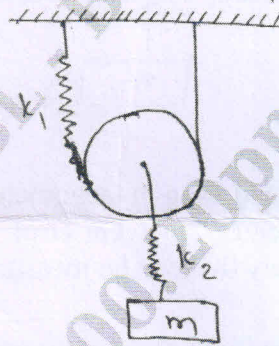

Fig. Q2 (b)
- b. Determine the natural frequency of mass $m = 15 \text{ kg}$ as shown in Fig. Q2 (b), assuming that chords do not stretch and slide over the pulley rim. Assume pulley has no mass and take $K_1 = 8 \times 10^3 \text{ N/m}$ and $K_2 = 6 \times 10^3 \text{ N/m}$. (08 Marks)